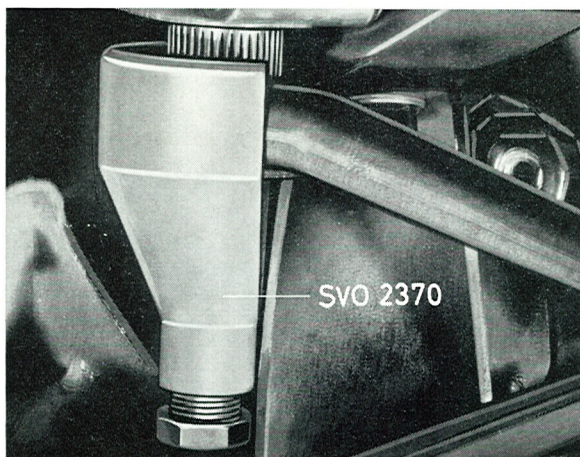

Fig. 6-39. Removing the pitman arm
3. Remove the lock nut for the pitman arm. Pull of the pitman arm with tool SVO 2370. After fitting the tool, turn the wheels to the left (see Fig. 6-39).